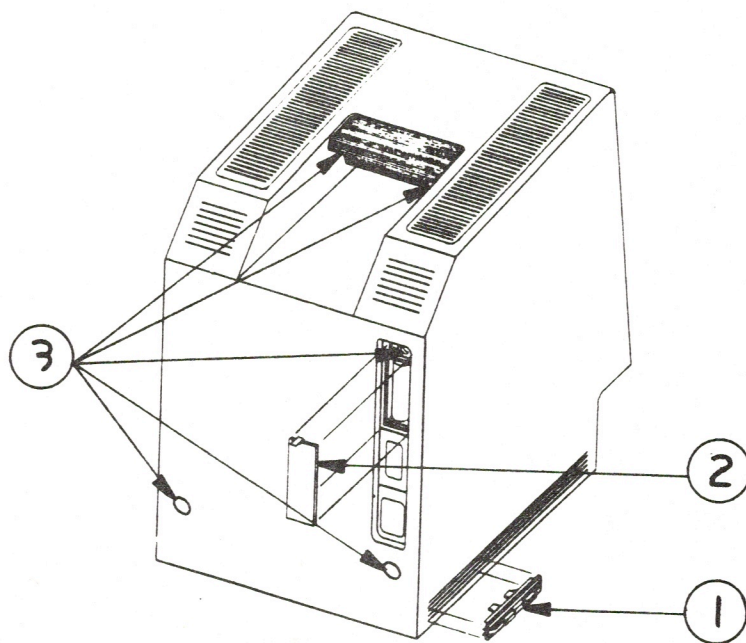

FIGURE 1
3. Remove the reset/interrupt switch (if installed) by prying it off with a small flatblade screwdriver (Figure 1, #1).
4. Press down the tab at the top of the battery compartment cover (Figure 1, #2) and pull it toward you.
6. Use a Torx screwdriver to remove the five screws (Figure 1, #3).